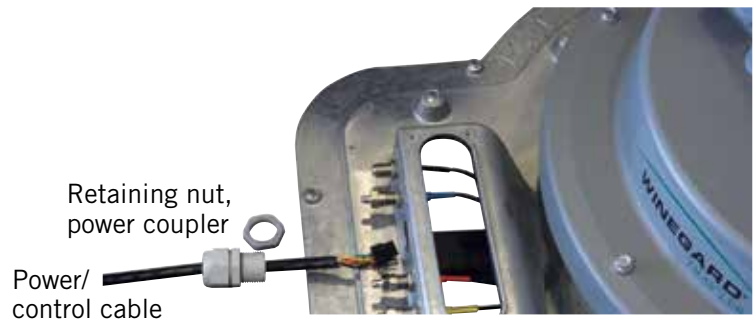

Figure 18
A) Reinstall the data cable, once connected tighten down the retaining nut (Figure 18).